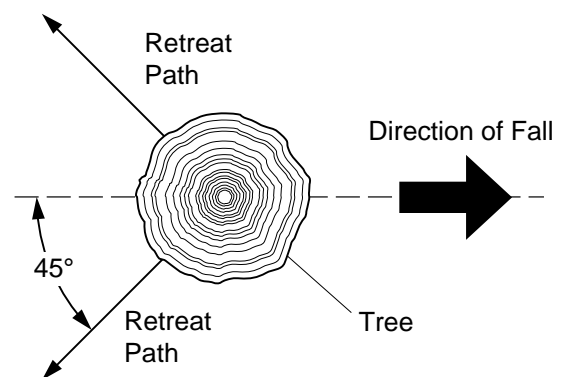

Figure 8 - Retreat Path From Tree
3. Plan and clear a retreat path before felling. Make retreat path opposite to planned direction of fall of tree and at 45° angle (see Figure 8).